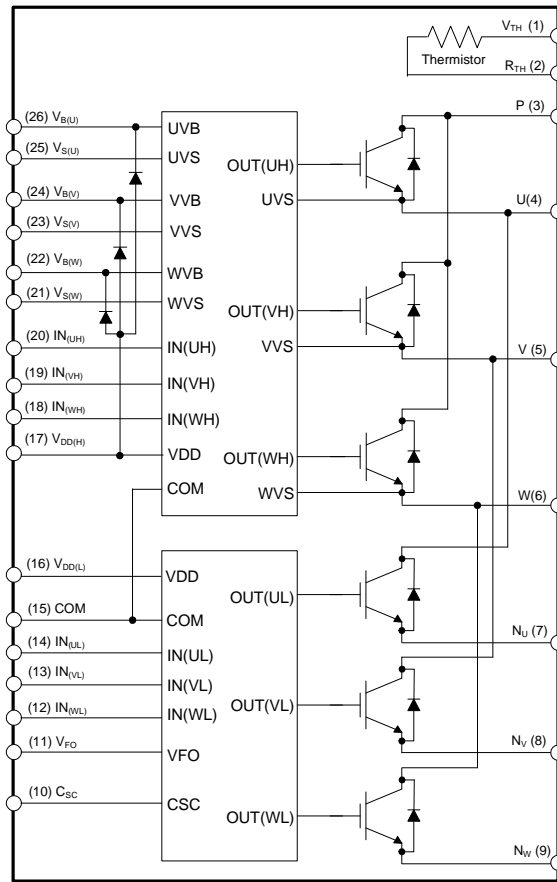

Figure 3. Internal Block Diagram
- 600 V - 30 A IGBT inverter for three-phase DC/ AC power conversion (please refer to Figure 3)